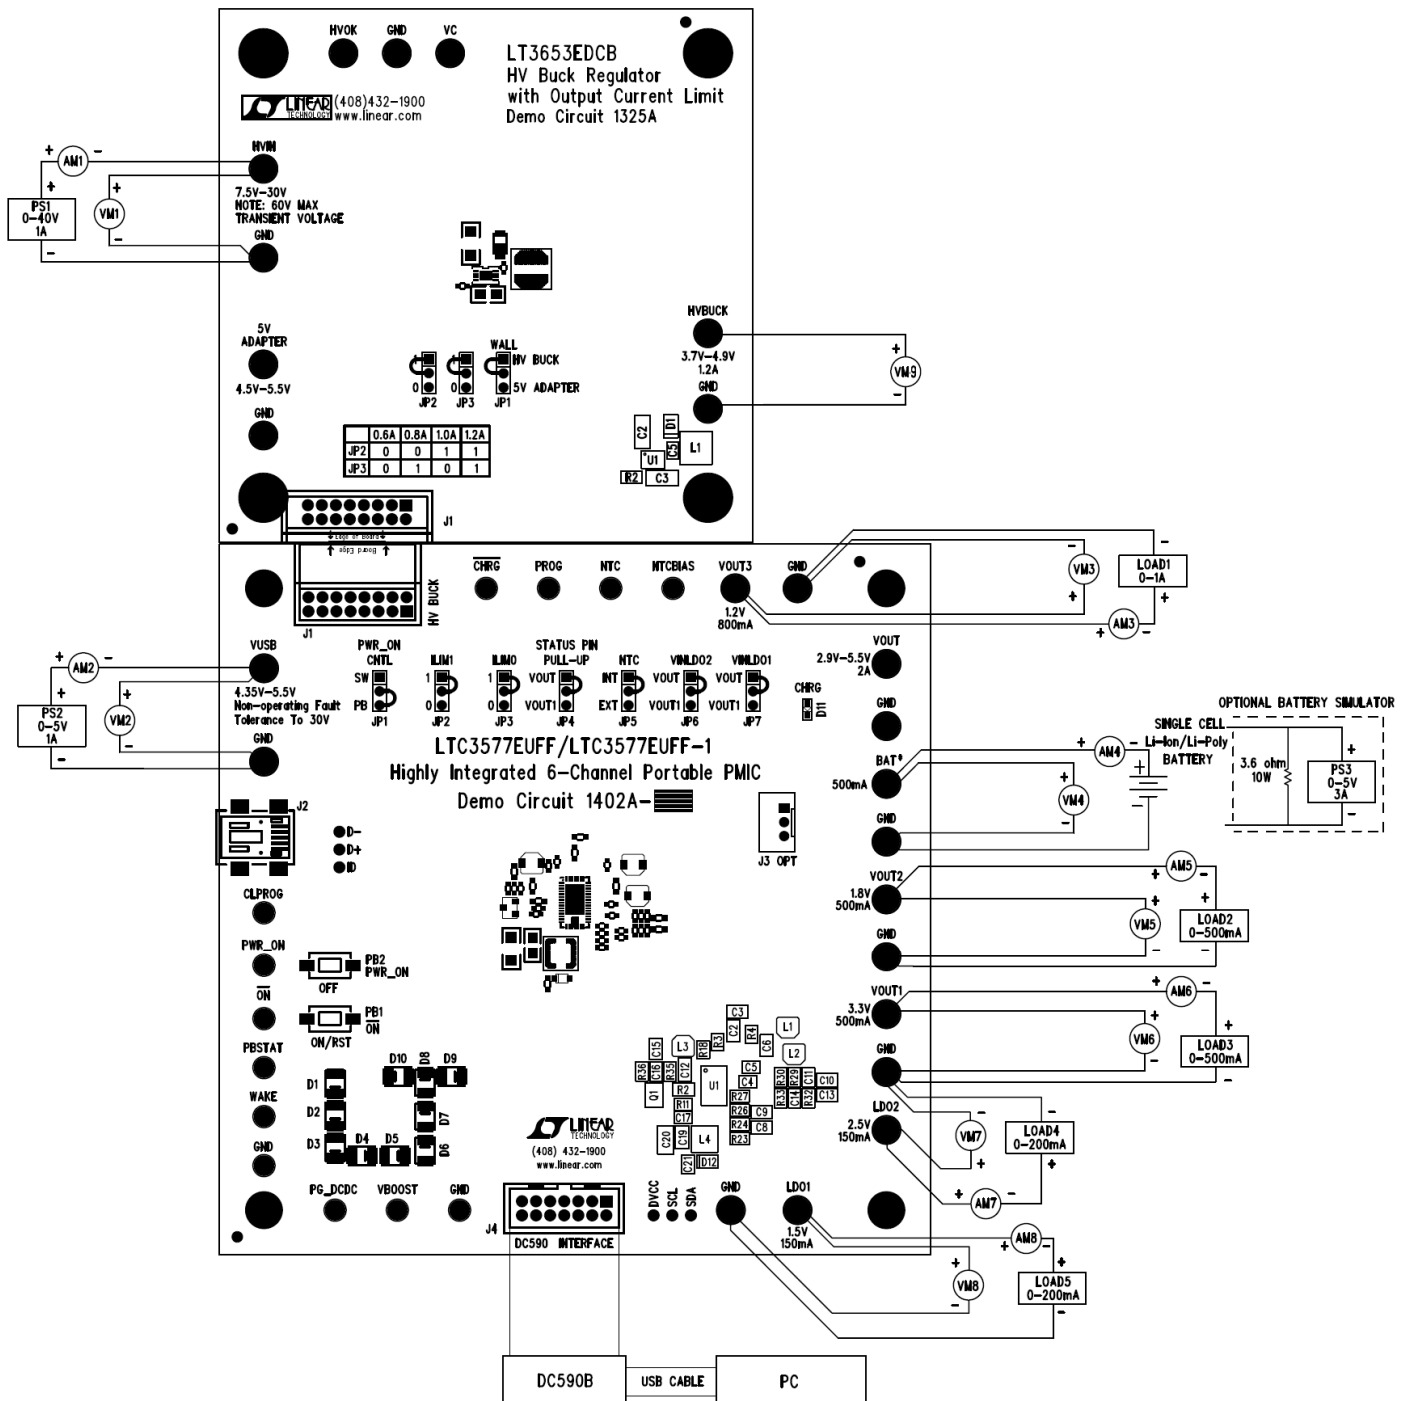
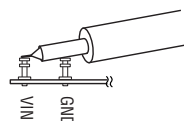

Figure 1. Proper Measurement Equipment Setup
Figure 2. Measuring Input or Output Ripple
The DC1402 is easy to set up to evaluate the performance of the LTC3577 and LTC3577-1. Refer to Figure 1 and Figure 2 for proper measurement equipment setup and follow the procedure below to evaluate using the DC590B board:
NOTE. When measuring the input or output voltage ripple, care must be taken to avoid a long ground lead on the oscilloscope probe. Measure the input or output voltage ripple by touching the probe tip directly across the Vin or Vout and GND terminals. See Figure 2 for proper scope probe technique.
5. Connect DC1402 to the DC590B USB Serial Controller using the supplied 14-conductor ribbon cable as shown in Figure 1.
6. With power off, connect a 5V, 1A power supply to VUSB and GND with a series ammeter and a voltmeter as shown in Figure 1.
7. Connect a battery or a battery simulator set to 3.6V between BAT and GND with a series ammeter and a voltmeter as shown in Figure 1.
21. If using an external HV buck demo board, connect it to demo circuit 1402-2 as indicated in Figure 1.